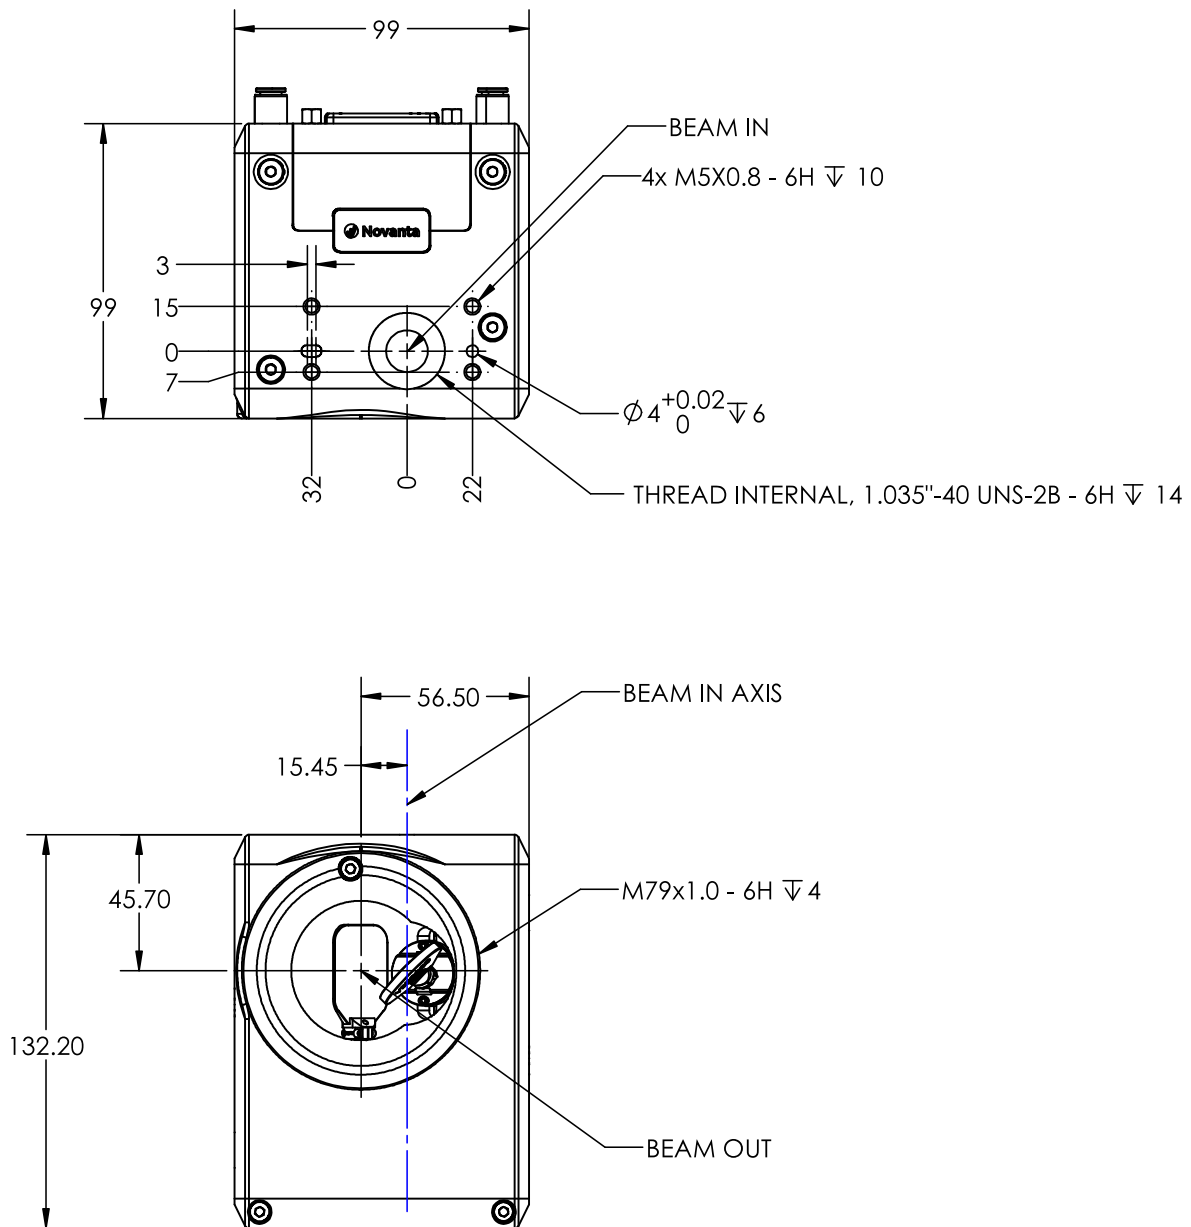

Figure 3: Dimensions of "top I/O"- and "side I/O"-variant in millimeters
- ☐ Machine screws suitable for mounting VERSIA in the laser unit; see Figure 3 on page 22. NOTE: Observe the permitted tightening torque of the screws used.
- Use the M5 mounting threads as indicated in Figure 3 on page 22 to mount the VERSIA scan head on its place in the laser unit.